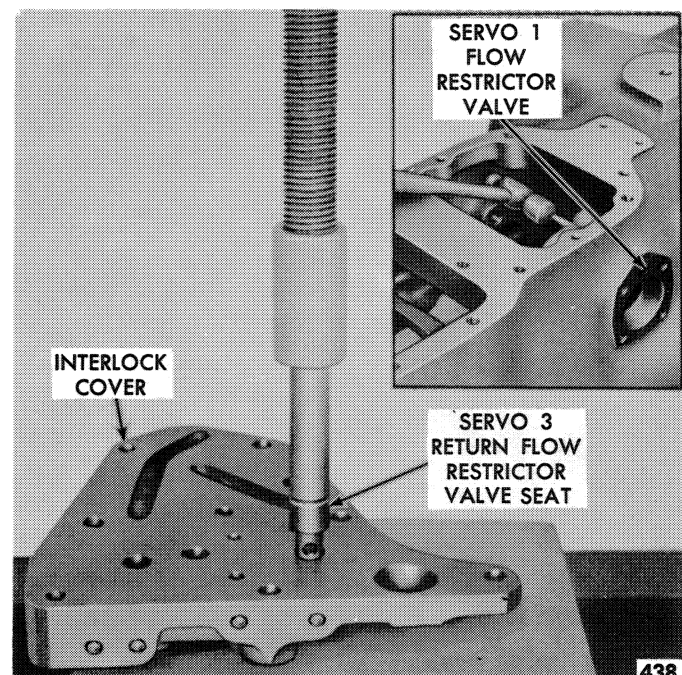

Figure 120—Servicing Flow Restrictor Valves
1. The servo 3 return flow restrictor valve must be pressed into the interlock cover with the opening in a vertical position, as shown in Figure 120. Otherwise, the fluid passage to servo 3 would not deliver fluid properly, and could be completely closed off.
2. The servo 1 flow restrictor valve, shown in the insert, Figure 120, was used on early production